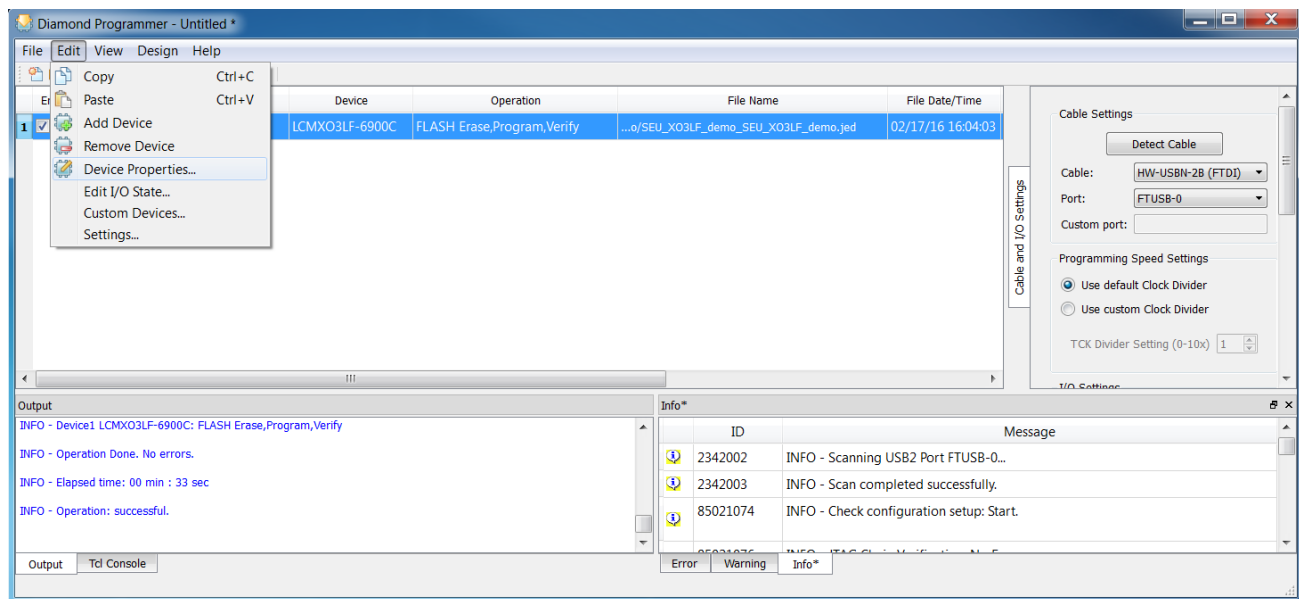

Figure 8.11. Device Properties Selection
1. Click on the Device line so it gets highlighted as shown in Figure 8.11.